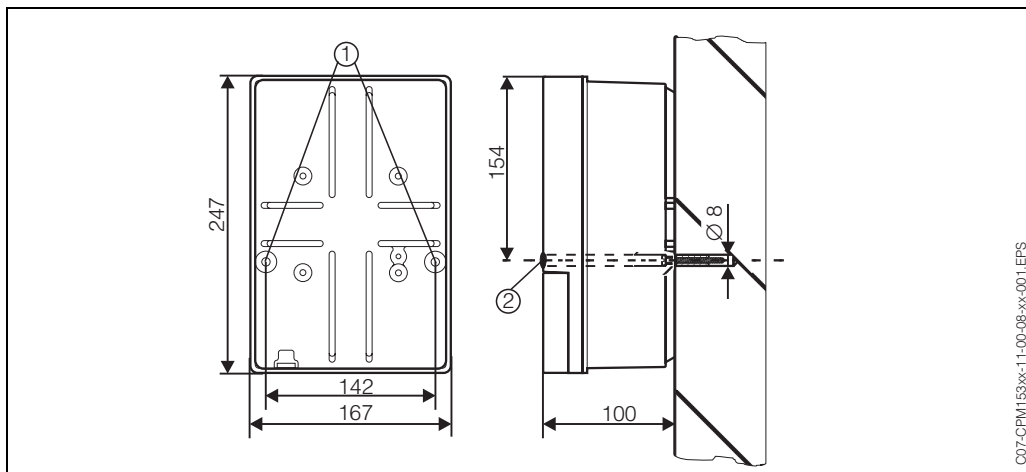

Fig. 2: Dimensions for wall mounting: Fixing screw: \varnothing 6 mm
1. Prepare drill holes acc. to Fig. 2.
2. Push both fixing screws through the appropriate fixing drill holes ①.
4. Cover the drill holes with the plastic cover caps ②.